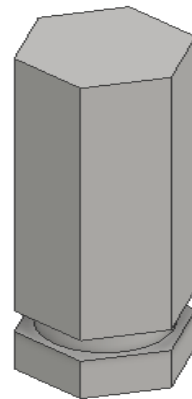

Figure 17-38 The iFeature applied to the model
21. Choose the **Finish** button; the iFeature is applied to the model, refer to Figure 17-38. You will notice that the **iFeature1:1** node is created in the **Browser Bar**.